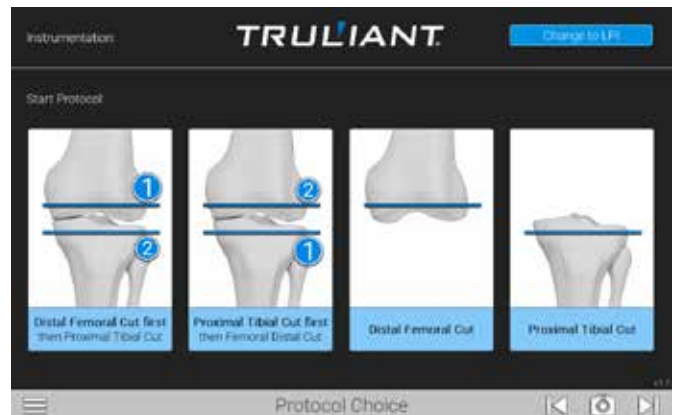

Figure 6
Advance to the Protocol Choice screen and select one of the four (4) protocol choices available. (Figure 6).